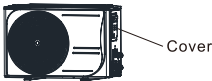

Fig 33
1. Remove the electrical control board cover from the outdoor unit as shown in Fig.33.